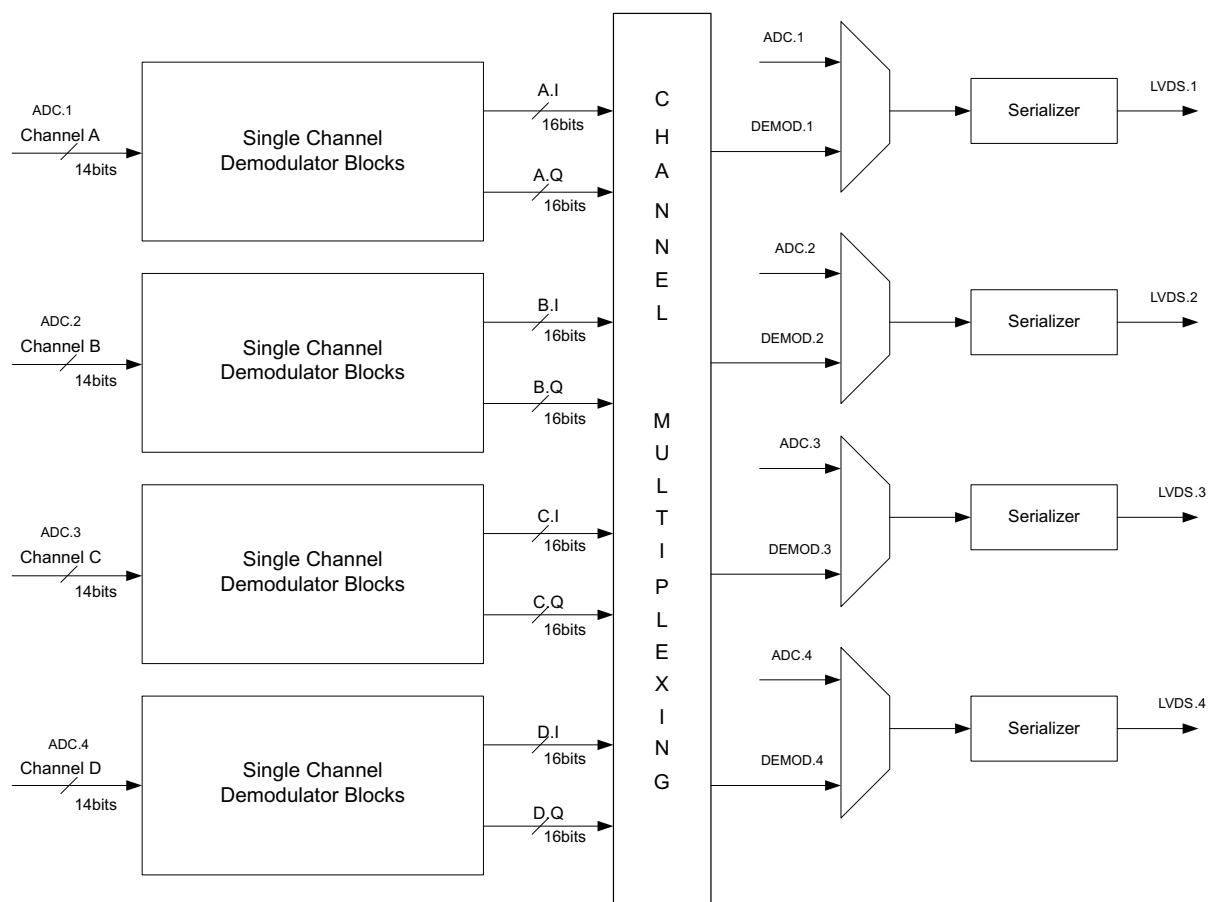

Figure 76. Channel Multiplexing
3. The decimator block has two functions: decimation filter and down sampler. Decimation filter is a variable coefficient symmetric FIR filter and its coefficients can be given using coefficient RAM. Number of taps of FIR filter is $16 \times$ decimation factor (M). For decimation factor of M, $8M$ coefficients have to be stored in the coefficient bank. Each coefficient is 14-bit wide. Down-sampler gives out 1 sample followed by $M - 1$ samples zeros.
4. In Figure 76, channel multiplexing is implemented for flexible data routing: